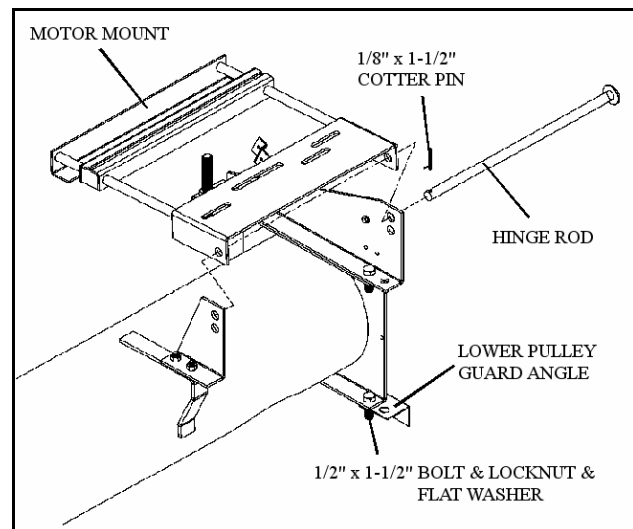

Figure 3.7
4. Place motor mount assembly in between the two mount plates and insert hinge rod (Figure 3.7). Secure hinge rod with a 1/8" x 1-1/2" cotter pin.
5. Attach lower pulley guard angle to the head plate with two 1/2" x 1-1/2" bolts and locknuts and 1/2" flat washers (Figure 3.7). Tighten securely.